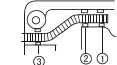

Figure 3
3. Embed the drain hose into the groove along the side of the spin tub in the order of (1)-(3), heading for the side of the spin tub. (See to Figure 3).